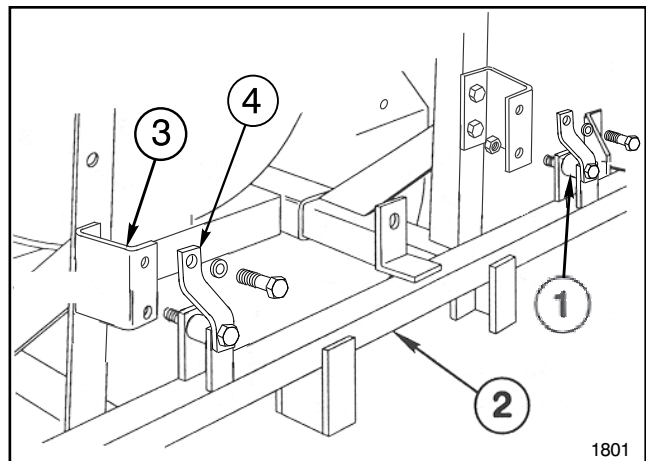

FIG. 3
4. Position a Spacer Tube between the lugs on each side of the Main Frame tube. Insert a 1/2" x 2-3/4" Grade 8 cap screw through the lugs and spacers. Secure the Main Frame to the Boom Mounting Brackets with flange nuts. Torque to 105 ft lbs. (142 N-m) (See FIG. 3)